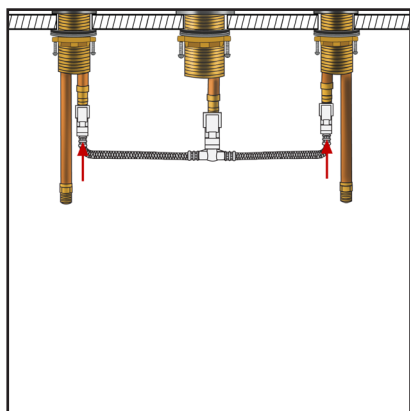

Figure 5
6. Now, connect the cold water supply hose to the end of the cold water supply hose pipe by inserting the supply hose onto the end of the hose pipe until it will go up no further. Do the same for the hot water hose (**Figure 5**).